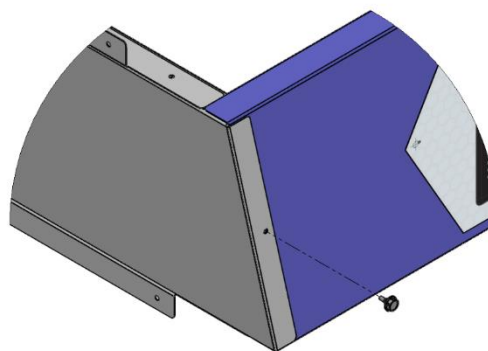

Figure 4: Secure rear panel to side panel with supplied No. 10 x 3/8" screw.
3. Secure the rear panel to the side panel using the supplied **No. 10 x 3/8"** screws in the aligned pre-drilled holes as shown in **Figure 4**.